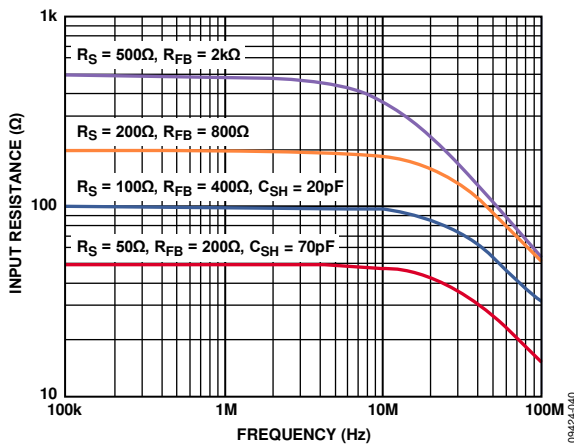

Figure 43.  $R_{IN}$  vs. Frequency for Various Values of  $R_{FB}$  (Effects of  $R_{SH}$  and  $C_{SH}$  Are Also Shown)
The bandwidth (BW) of the LNA is greater than 100 MHz. Ultimately, the BW of the LNA limits the accuracy of the synthesized  $R_{IN}$ . For  $R_{IN} = R_S$  up to about 200  $\Omega$ , the best match is between 100 kHz and 10 MHz, where the lower frequency limit is determined by the size of the ac coupling capacitors, and the upper limit is determined by the LNA BW. Furthermore, the input capacitance and  $R_S$  limit the BW at higher frequencies. Figure 43 shows  $R_{IN}$  vs. frequency for various values of  $R_{FB}$ .